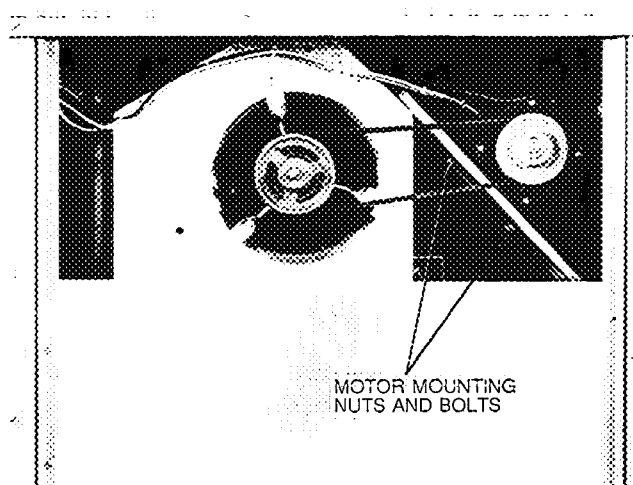

Fig. 27 – Belt Drive Motor Mounting
BELT DRIVE MOTORS — Fan motor pulleys are factory set for speed shown in Table 1. See Fig. 27 for belt drive motor location.
2. Loosen belt by loosening fan motor mounting nuts. See Fig. 27.